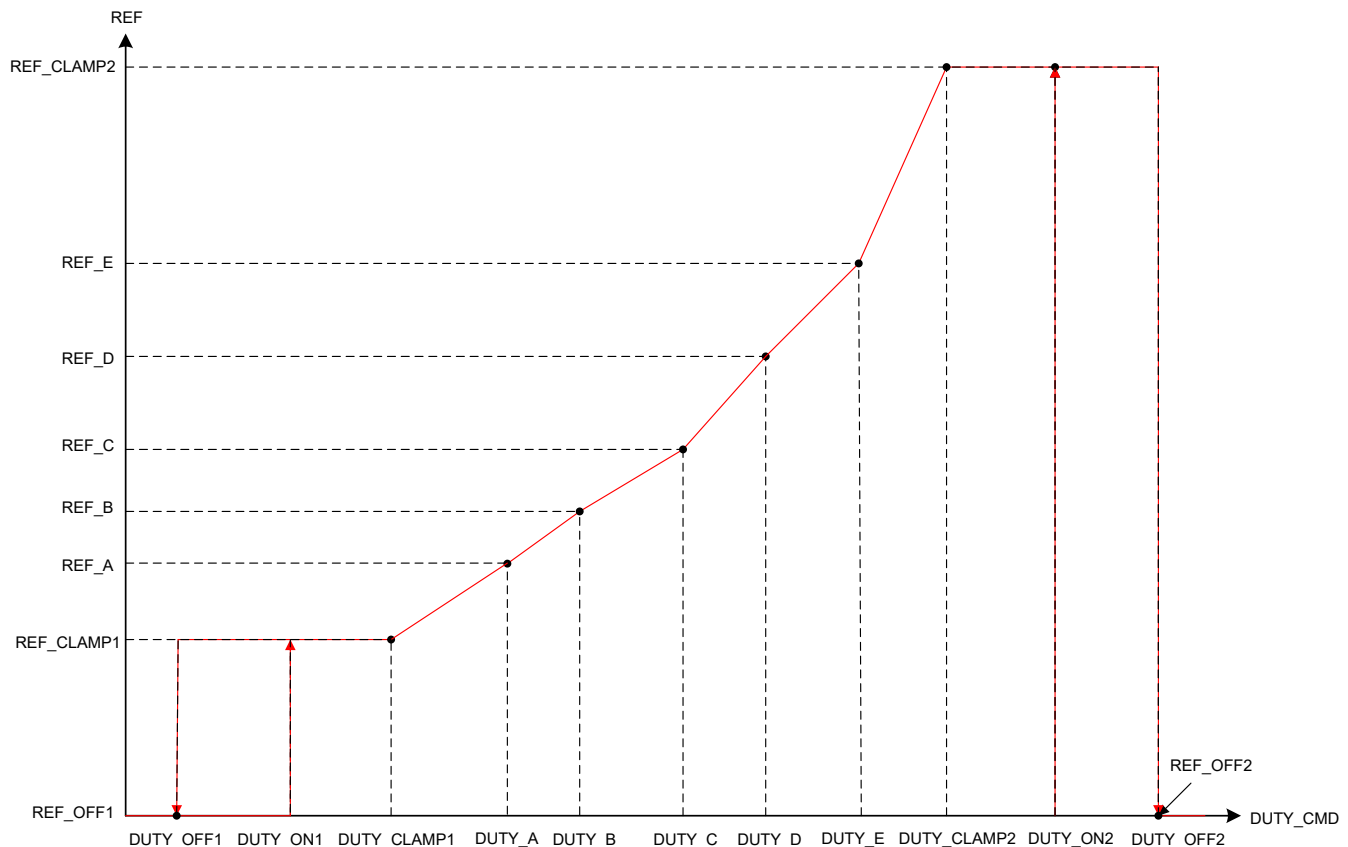

Figure 7-10. Linear Control Profiles
- DUTY_OFF1 and DUTY_ON1 configures a hysteresis around reference control input REF_CLAMP1 and REF_OFF1 as shown in Figure 7-10.
- DUTY_A configures the duty command for reference REF_A. The reference changes from REF_CLAMP1 to REF_A linearly between DUTY_CLAMP1 and DUTY_A. DUTY_A to DUTY_E has to be in the same order as shown in Figure 7-10.
- DUTY_OFF2 and DUTY_ON2 configures a hysteresis around reference control input REF_CLAMP2 and REF_OFF2 as shown in Figure 7-10.